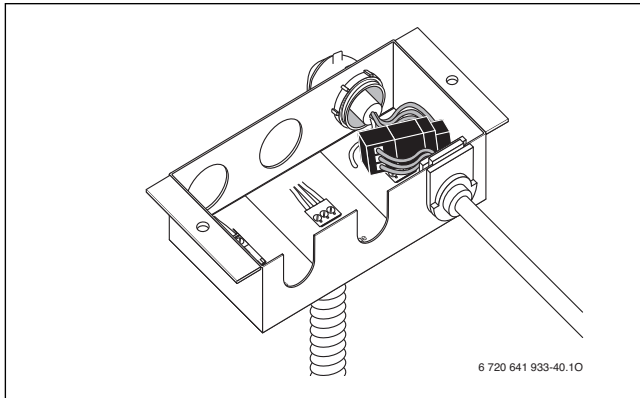

Fig. 53 Cable connected (external pump)
- Insert cable into the junction box as shown in Fig. 53.